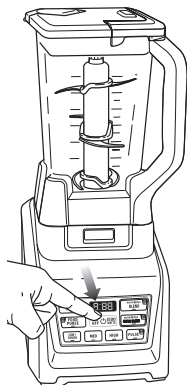

Fig. 7
- 10 Press the power button to turn on the unit. Select the speed or Auto-iQ™ program that best suits your needs. The Auto-iQ™ program will stop the appliance automatically at the end of the program. (Fig. 7)